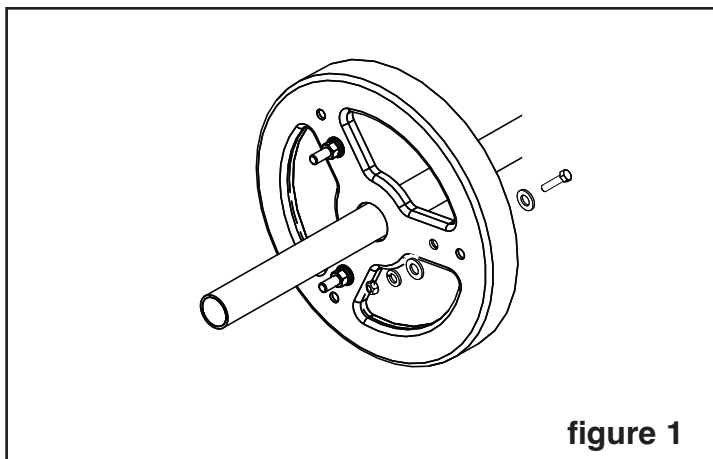
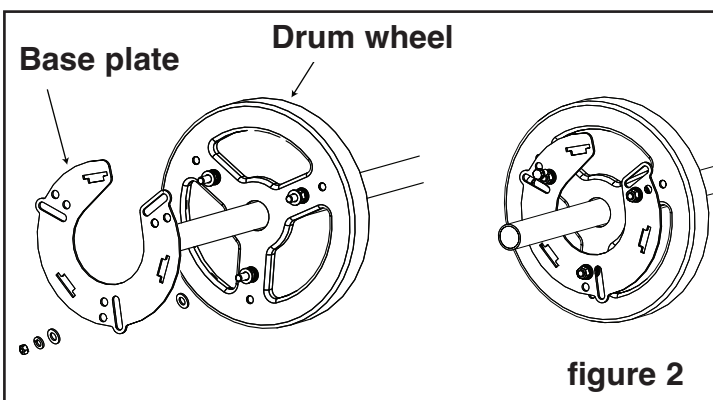

figure 1
figure 2
Before installing the unit, attach the mounting brackets correctly to the unit using the provided screws (figure 1). Once attached the unit is ready to be wall mounted (figure 2).
1. Identify matching hole patterns in drum wheel and base plate, then fasten the 3 x 3/8" hex bolts to the corresponding holes in the drum wheel using the large flat washers and spring washers as shown in figure 1. Ensure that the 3/8" hex nuts are fastened tightly.
2. Place large flat washers on the protruding bolts and fasten base plate to the bolts using large flat washers, spring washers, and 3/8" hex nuts as shown in figure 2. When selecting the orientation of the base plate in relation to the drum wheel ensure there is enough clearance between the slots for the drive spacer and the spokes of the drum wheel.
Figures 1 and 2 show recommended assembly of bracket(s) and "C" wrap based on the *wall* installation of the sensors on each side of the door shown above, or on the *door tracks* themselves. Figures 4, 5 & 6 show variations which may fit your installation requirements better. **Make sure the wraps and brackets are aligned so the sensors will face each other across the door.**